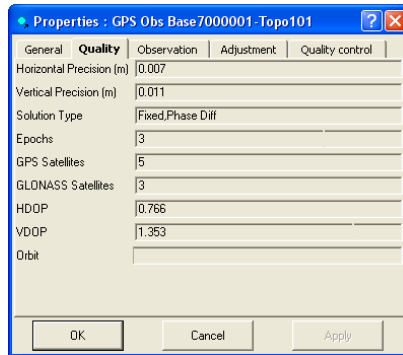

Figure 5-108. Quality Properties
4. View *Quality* tab fields which contain the fields for viewing (Figure 5-108 on page 5-76):